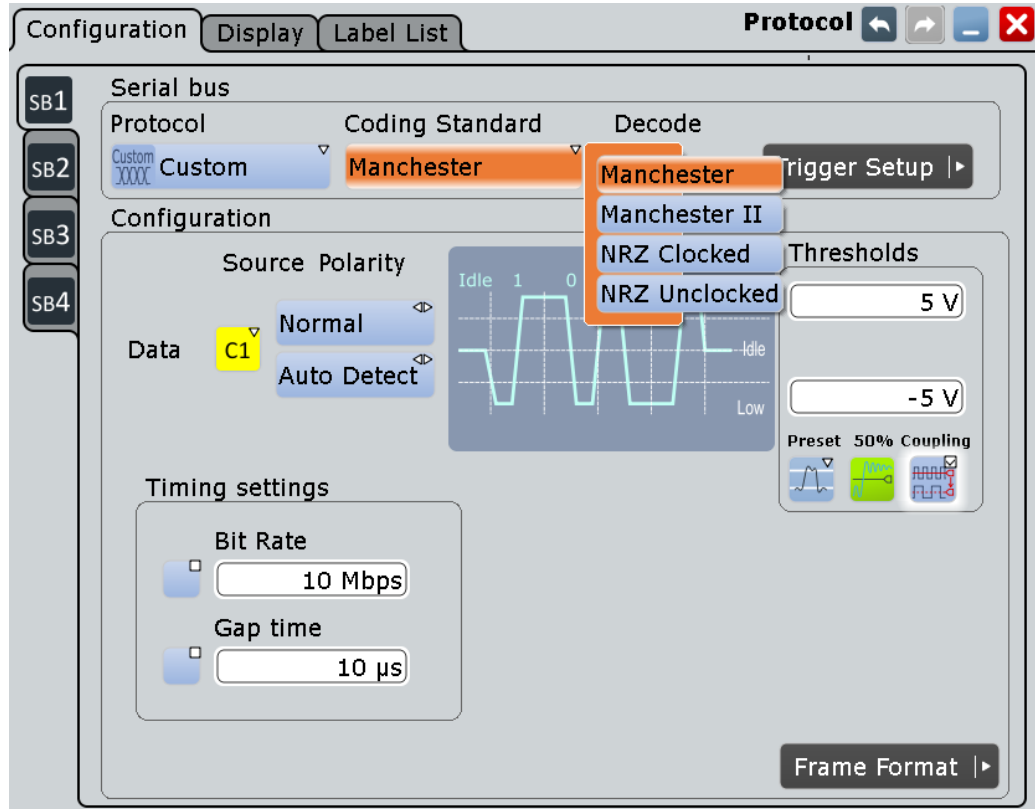

Figure 13-80: Coding standard selection in the serial bus protocol configuration dialog
- "Manchester" Selects the coding standard Manchester. Optional "Timing settings" are "Bit Rate" (default: disabled, 10 Mbit/s) and "Gap time" (default: disabled, 10 μ s), as shown in Figure 13-80.
- "Manchester II" Selects the coding standard Manchester II, which is the inverted signal of the coding standard Manchester. Optional "Timing settings" are "Bit Rate" (default: disabled, 10 Mbit/s) and "Gap time" (default: disabled, 10 μ s), as shown in Figure 13-80.